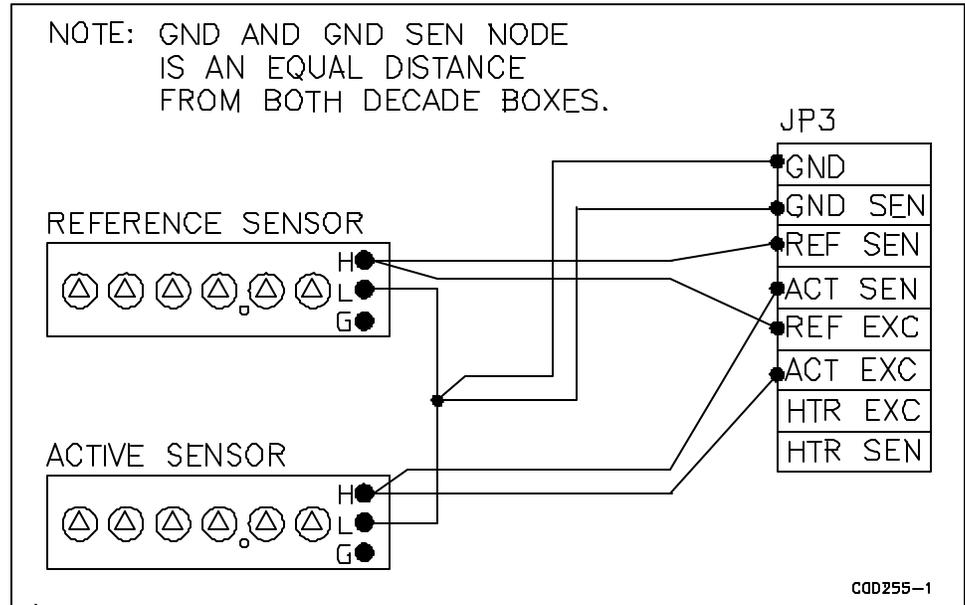

Figure 27 - Decade Box Connections
3. Disconnect JP3 and connect the decade boxes as shown in Figure 27.